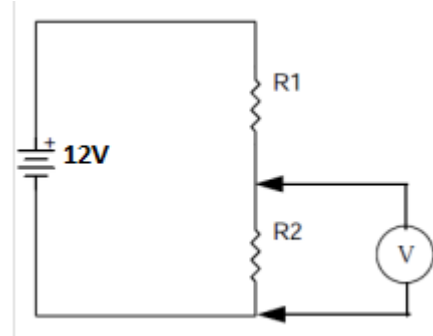

Figure 2
- 1) Construct the circuit in Figure 2 using 100k Ω Carbon Track resistors. Change the values of R_1 and R_2 by control knob (control setting).
- 1) Construct the circuit in Figure 2 using 10k Ω wirewound rotary resistors.
- 1) Do not alter the setting of 10 k Ω set in experiment 4 . Remove 100 k Ω from circuit and connect as shown in figure 2. Measure the voltage using analog meter. By comparing graph in experiment 4, calculate resistance of moving coil. Compare reading with the experiment 1. Find the cause of error from theory and the reading differences. Suggest the procedure to conduct experiment above for minimising the error.
- 1) From experiment 5, connect 10 k Ω wirewound resistor as shown in figure 2. Connect the voltage to buffer and Measure the voltage using analog meter then by multimeter. Compare the reading.